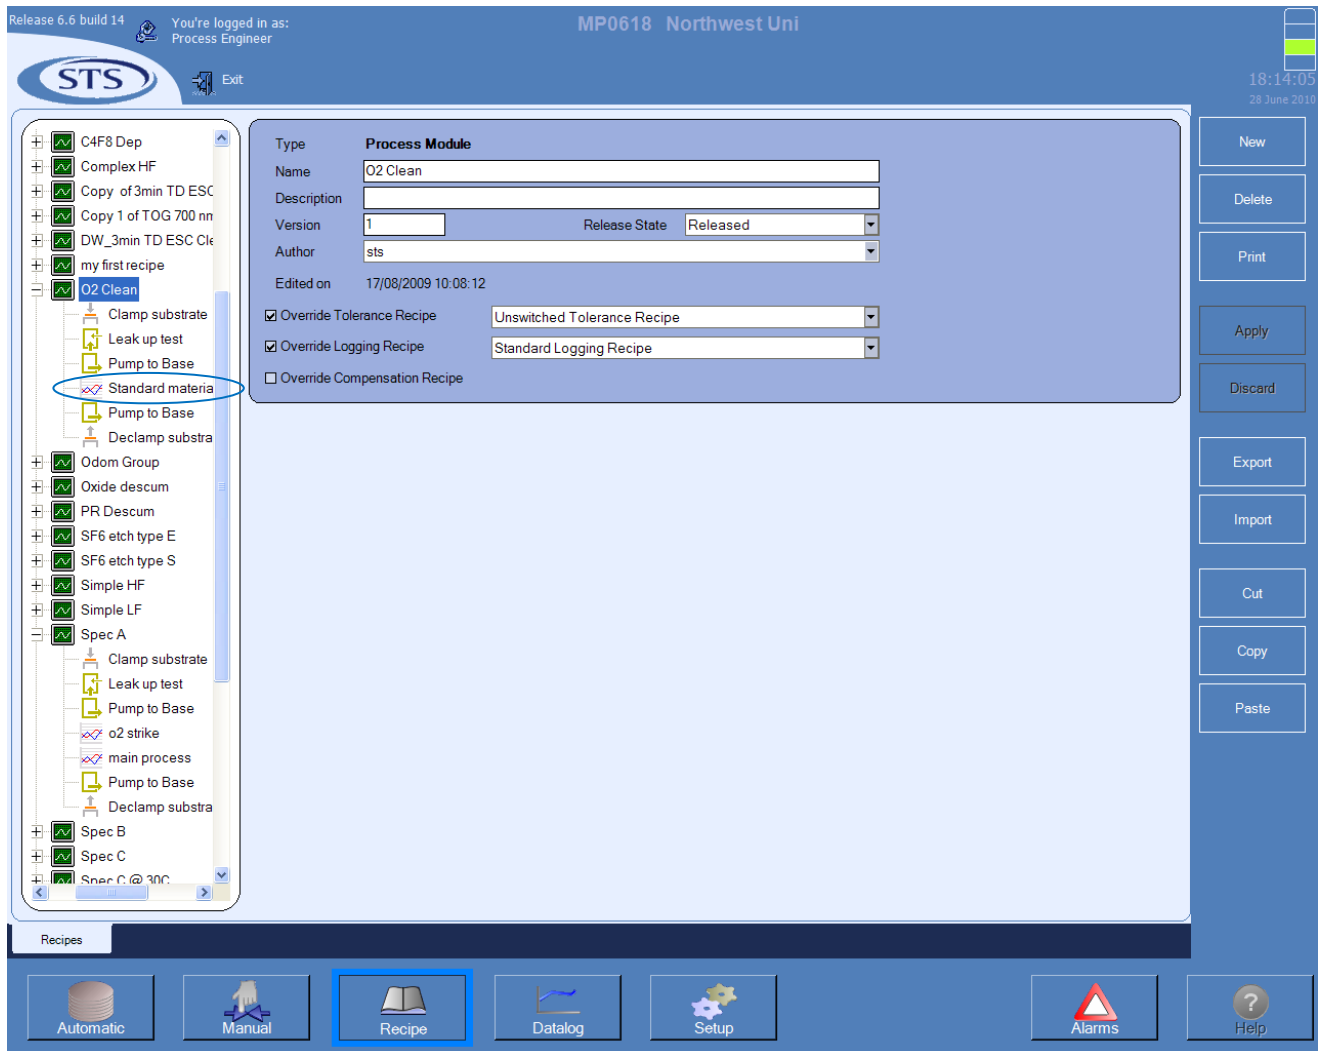

Figure 6: Recipe editing II.
- e) Recipes contain several modules. Make sure you only make changes in the main etch step. For the recipe shown in Figure 6, the main etch step is called Standard Material Process (circled in blue).